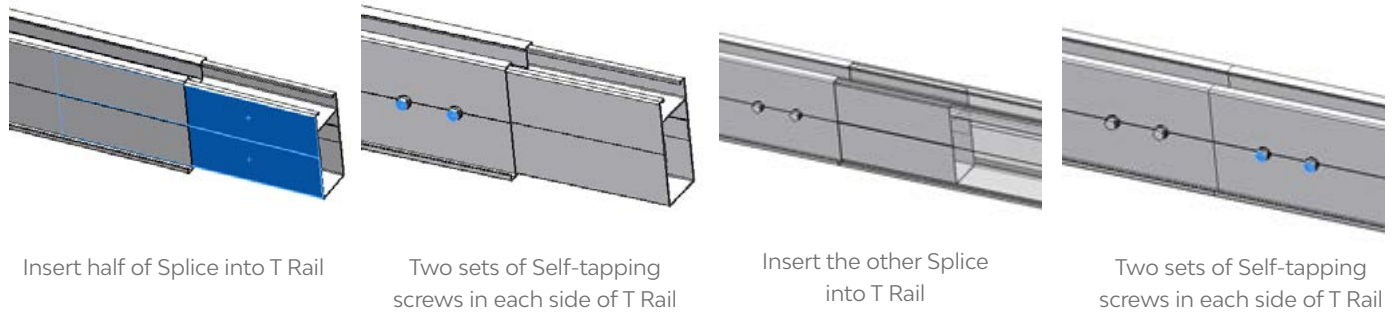

Figure 8
4) If the T Rail is not long enough, please apply Splice for T Rail to connect two T Rails together. Insert half of Splice into T Rail and fasten with two sets of Self-tapping screws in each side of T Rail, and then insert the other Splice into T Rail and fasten with Self-tapping screws as shown in Figure 8.